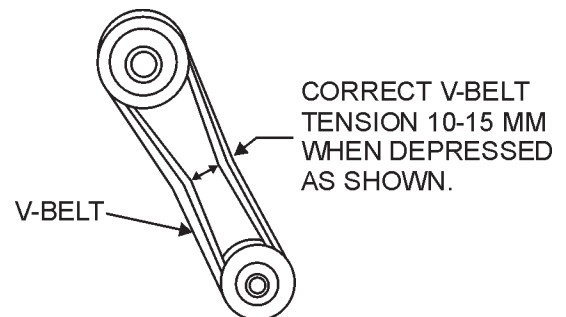

Figure 10. V-Belt Tension
2. The V-belt tension is proper if the V-belt bends 10 to 15 mm (Figure 10) when depressed with finger at midway between the clutch and vibration pulley shafts.